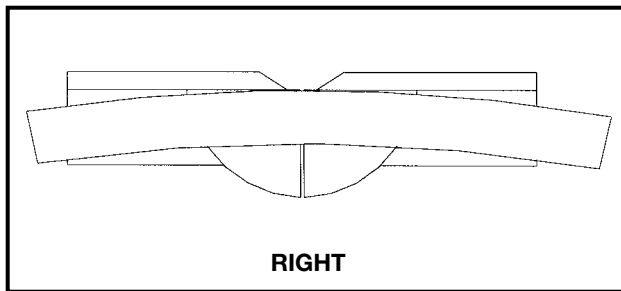

Fig. 34
1. When cutting flat pieces, first check to see if the material is bowed. If it is, make sure the material is positioned on the table as shown in Fig. 34.